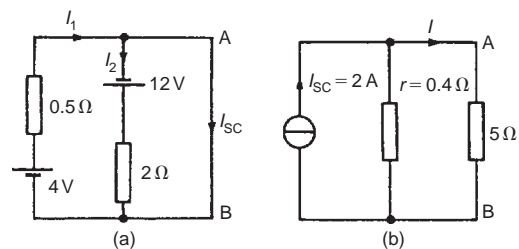

Figure 15.59
- (i) The 5Ω branch is short-circuited as shown in Fig. 15.59(a)
- (ii) From Fig. 15.59(a),
(iv) From the Norton equivalent network shown in Fig. 15.59(b) the current in the 5Ω resistance is given by: